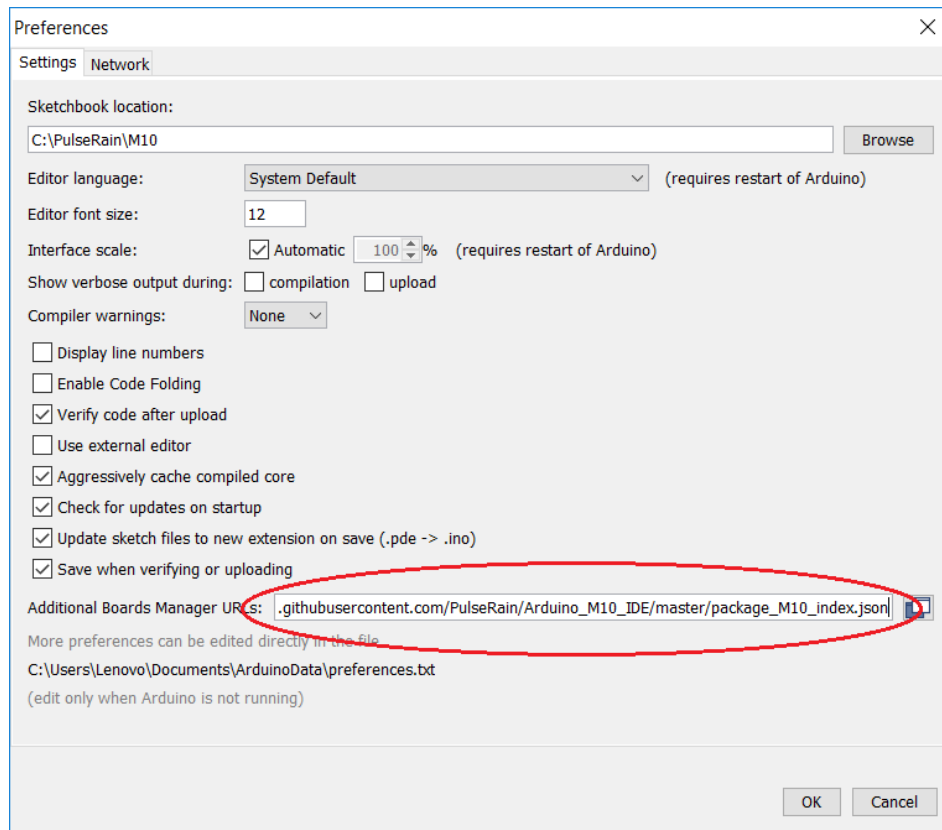

Figure 2-4 Arduino IDE, Preferences Dialogue
- 3) The File / Preferences menu will bring out a dialog like the one shown in Figure 2-4. Please set the "Additional Boards Managers URL" to https://raw.githubusercontent.com/PulseRain/Arduino_M10_IDE/master/package_M10_index.json (If this input box is not empty, use semicolon to separate multiple URLs.) And click OK to close the dialogue.